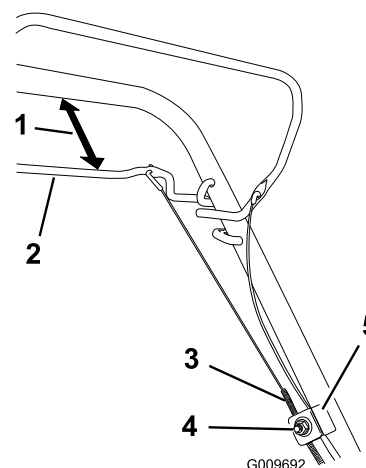

Figure 38
1. Loosen the cable support nut (Figure 38).
2. Hold the self-propel bail 1 to 1-1/2 inches (25 to 38 mm) from the handle (Figure 38).
3. Pull down the cable jacket (toward the mower) until there is no slack in the cable (Figure 38).